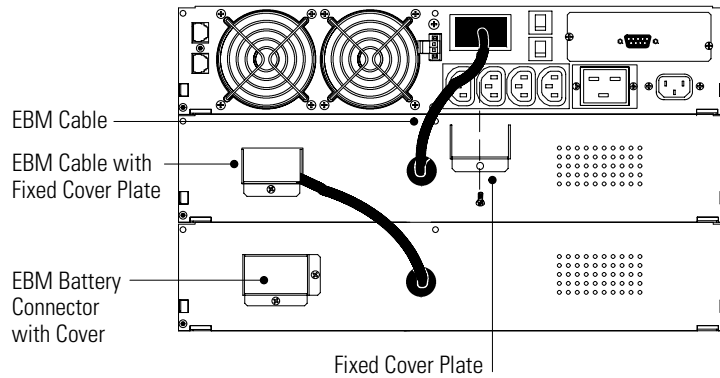

Figure 10. Typical EBM Installation for 230V Models
6. Plug the EBM cable into the UPS battery connector (see Figure 10).
7. Attach the fixed cover plate (supplied in the accessory kit) to the EBM cable as shown in Figure 10.